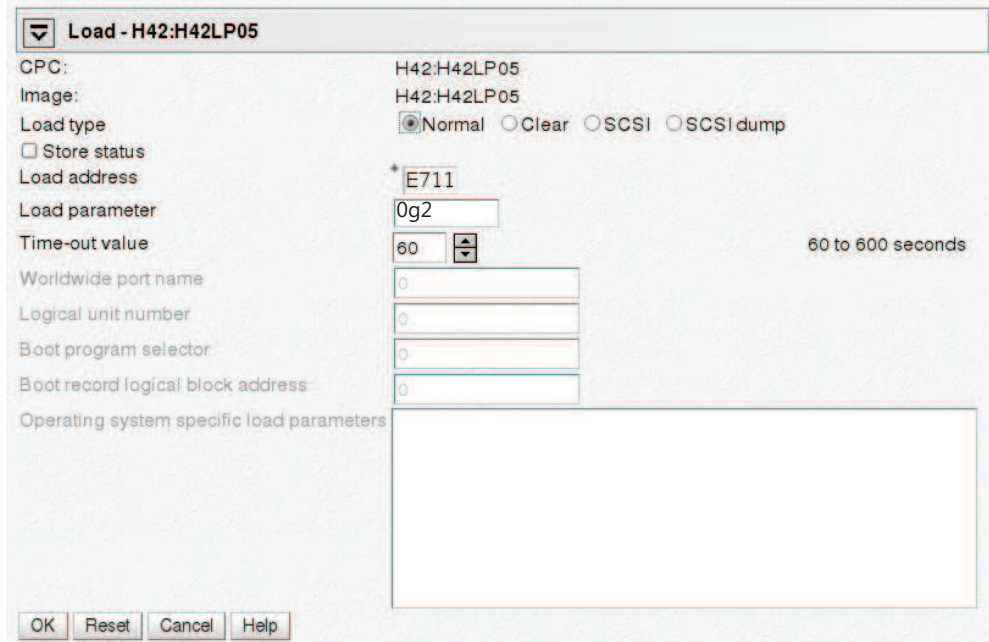

Figure 15. Load panel for booting from DASD
4. Select load type **Normal** (see Figure 15 on page 64).